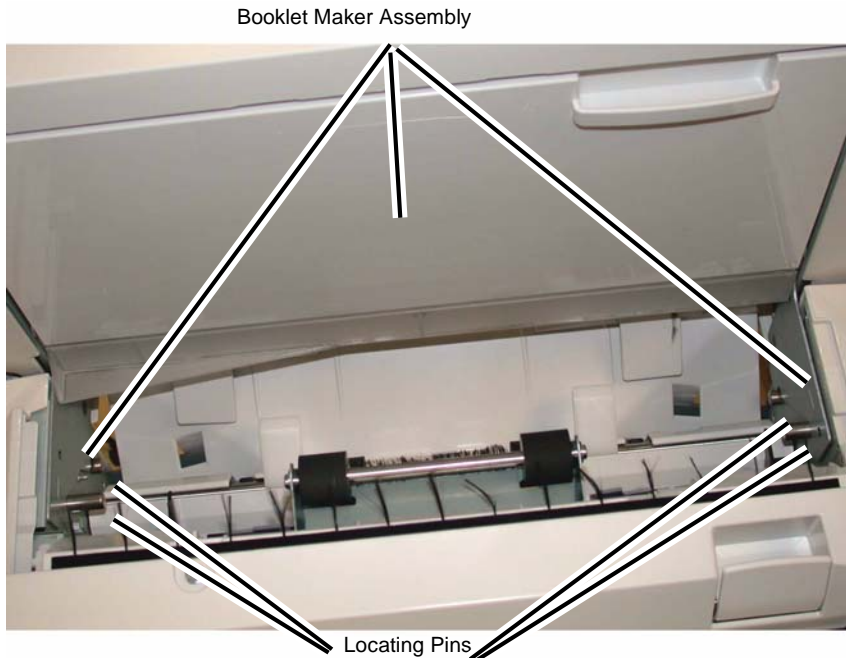

Figure 4 Removing the Booklet Maker Assembly
- 6. Lift the Booklet Maker Assembly off the Locating Pins (4), and remove (Figure 4).